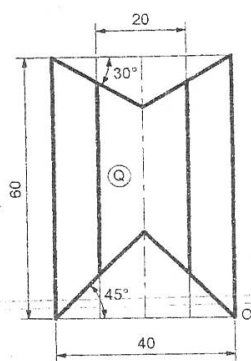

Fig 6 Q-5(c)
c) A hexagonal prism base 20mm side and height 60mm is standing on the base of H.P. Its surface is cut as shown in fig. 6. Draw the development of lateral surface 'Q' of prism. Open the prism from 'O'.